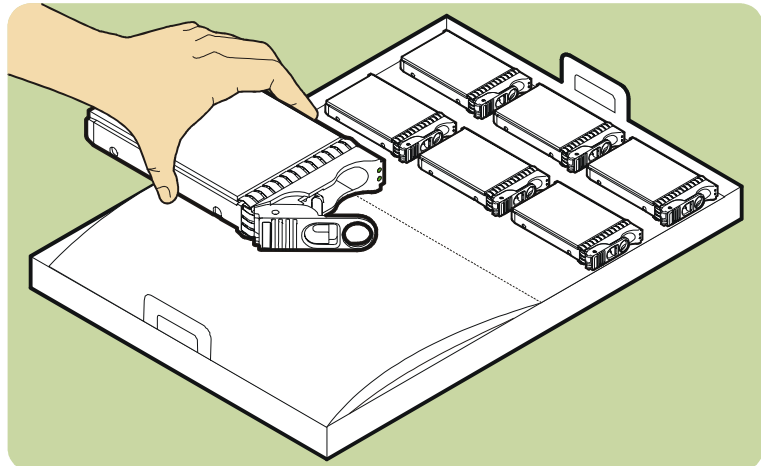

Fig. 8. Placing disk drives on the antistatic mat
5. Place the disk drives on the antistatic mat (see Fig. 8).